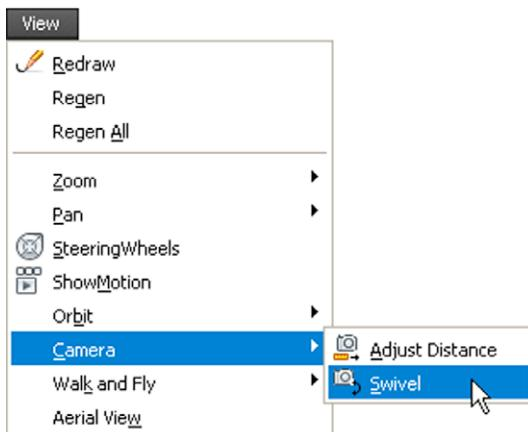

Fig. 15.47 Selecting Camera/Swivel from the View drop-down menu
**4.** If not satisfied with the scene it can be amended in several ways from the **Camera/Swivel** command (**View** drop-down menu) and its *right-click* menu (Fig. 15.47).